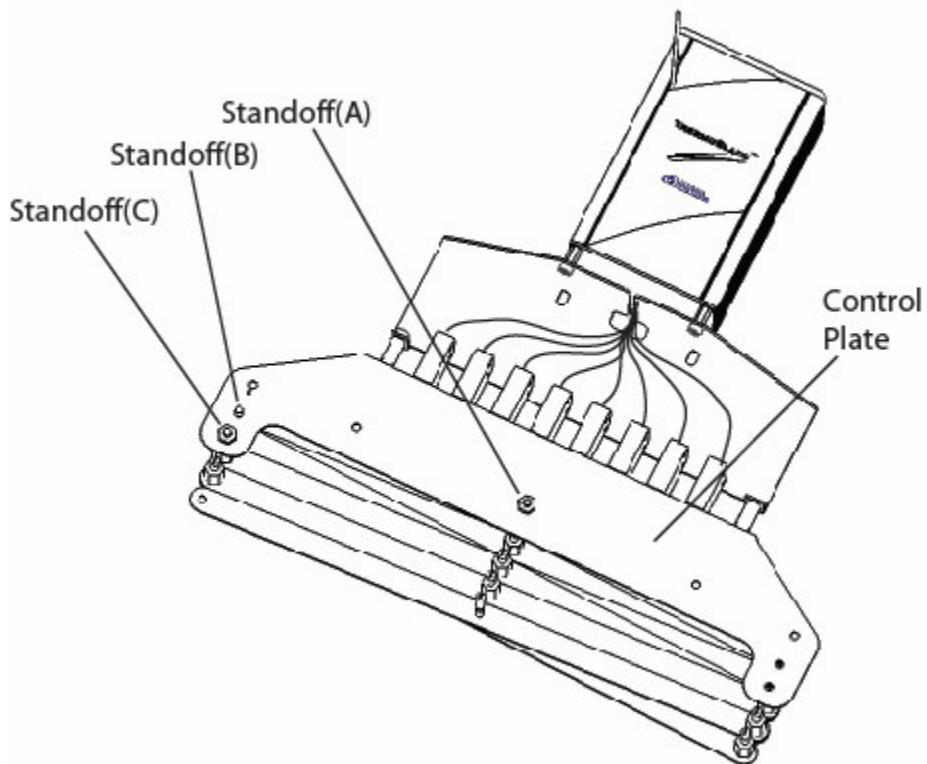

Figure 3. Standoffs on TC-Bridge
Referring to Figure 3 below, there are three tall standoffs in the TC-Bridge assembly. One tall standoff (A) is located at the center of TC-Bridge members. The other two tall standoffs (B&C) are located at the ends of two TC-Bridge members.
1. Referring again to Figure 3, locate and unscrew the two wing nuts from standoffs A and C.
6. Align the standoffs (A&C) with the open holes on the control plate, as shown in Figure 3. Secure the standoffs (A&C) to the control plate using the two wing nuts from Step 1.